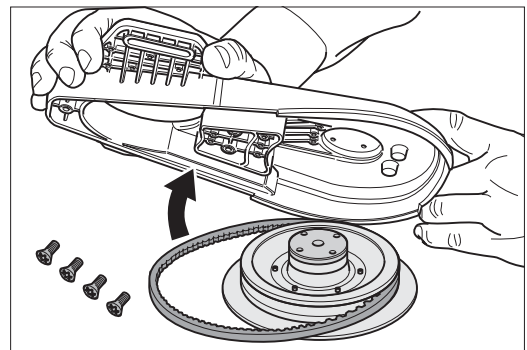

Fig. 35 Remove the attachment from the steel sanding disc.
- 9 Then remove the attachment from the steel sanding disc (Fig. 35).